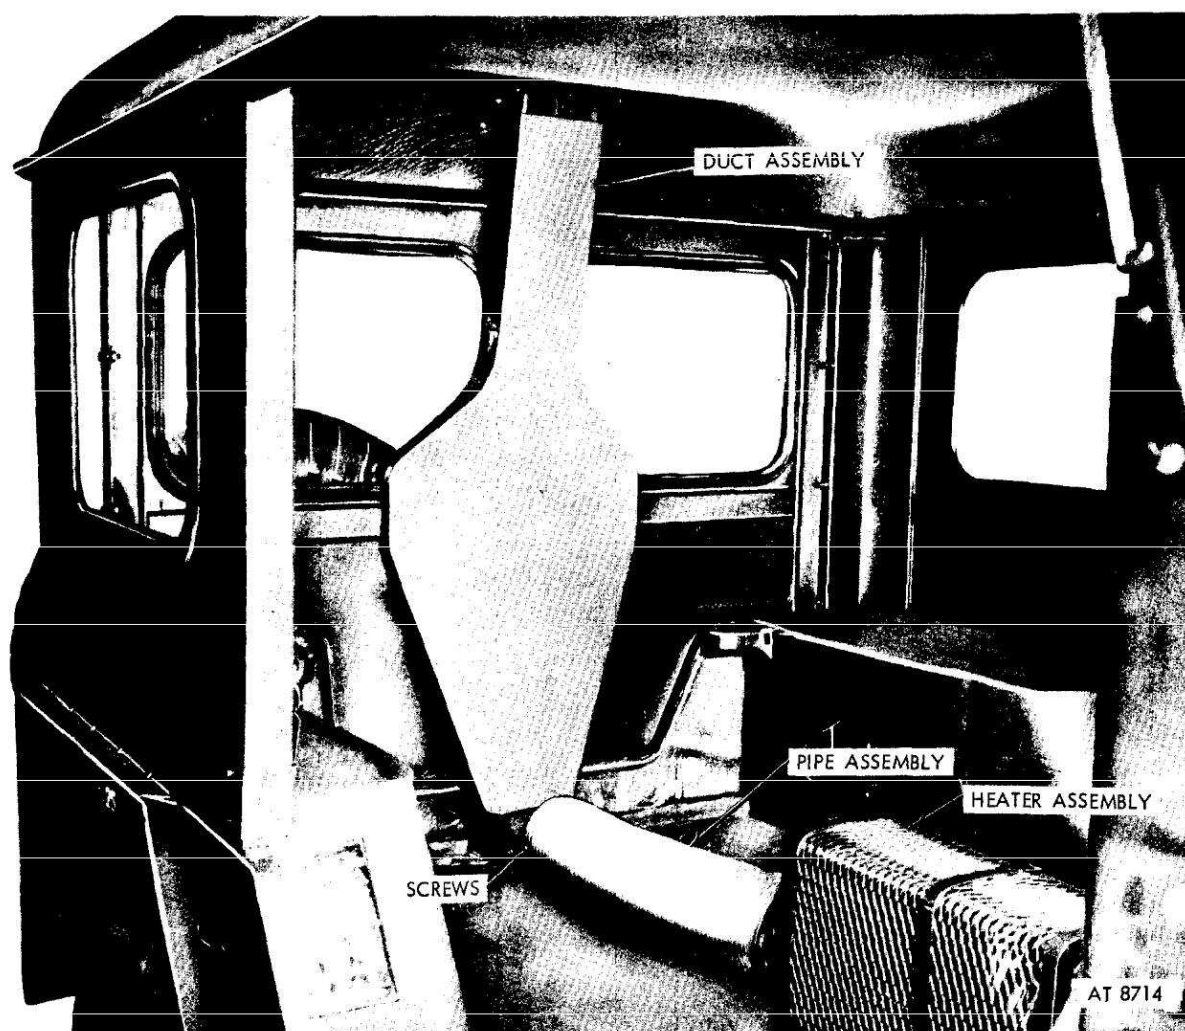

Figure 4-5. Winterization kit (-65°F) duct assembly installed on later model hardtop vehicles.
a. General. This paragraph describes, locates and illustrates the various controls and instruments provided for operation of the M151 and M151A1 utility trucks equipped with -65° F vehicle winterization kits. Controls may be somewhat relocated depending upon when the heater installations were made. Later model hardtop duct installations are shown in figure 4-5.
b. Emergency Switch (A). This switch is used to stop both the fuel flow and the blower motor and should be used only in an atomic or gas attack.
c. Heater Control Switch (E). This switch controls fuel flow for high and low heat output and stops fuel flow in the "OFF" position.
d. Circuit Breaker Reset Button (D) This button is used to reset the circuit breaker in the heater electrical system.
e. Defroster Control Handle (B). Heated air to the windshield glass is controlled by this handle.